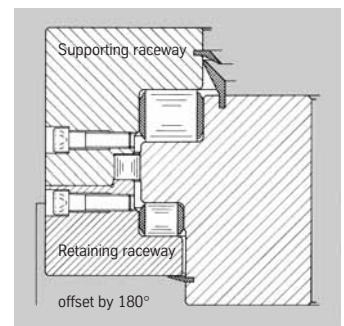

Fig. 5:
- Remove the sealing elements from the sampling ports (Figs. 5 and 6).